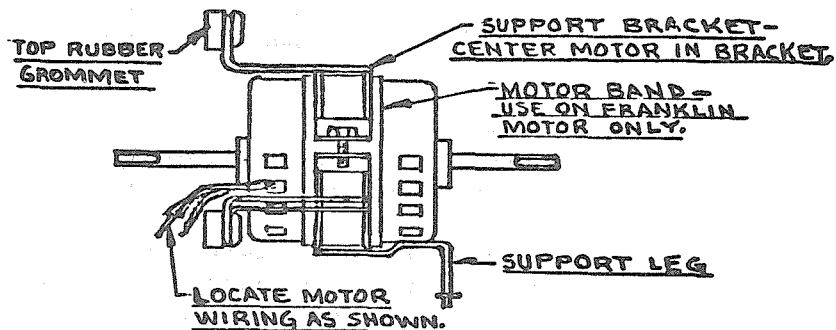

FIGURE 1
- g. Remove motor from support bracket and insert new motor in place, keeping motor centered in bracket and motor leads at same location. See Figure 1.
Note: In order to position the Franklin motor correctly, a 1/16" thick band is placed around the shell of the motor for spacing. The G.E. and Marathon motors do not require this band. See Figure 1.